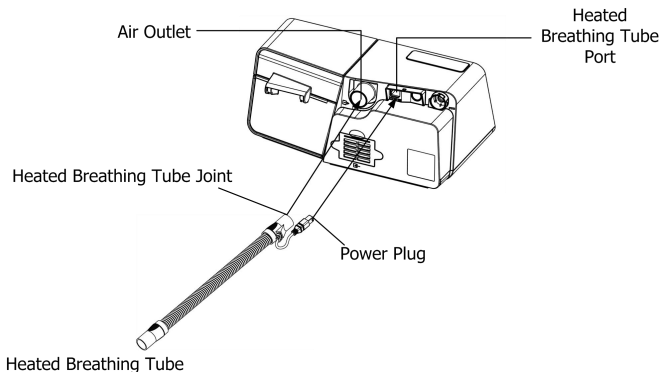

Fig. 12-9
(2) Or if the heated breathing tube is applied, connect the heated breathing tube joint to the air outlet of the device, and then insert the power plug of the heated breathing tube into the heated breathing tube port on the back of the device, as shown in Fig. 12-9.